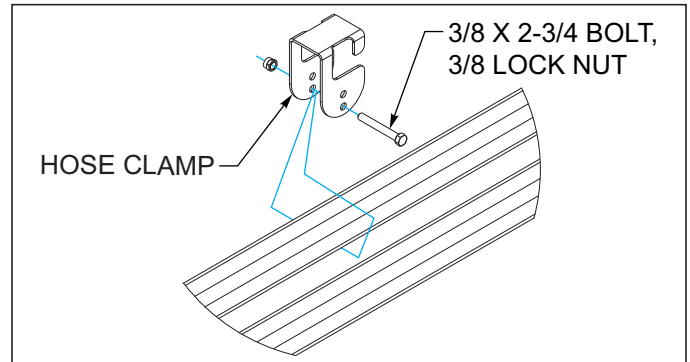

Figure 3-9: Hose Clamp Installation
11. Attach hose clamps to the center and wing frames ***See Figures 3-9*** using 3/8 x 2-3/4 hex head cap screws and 3/4 lock nuts.